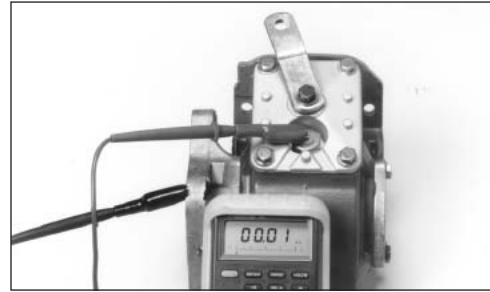

Fig. 19
1. Use a continuity checker, battery type, either meter or light. Attach one (1) probe to the screw on the Indicator Switch.
2. With the other probe, make contact with the shifter cover or housing (**Fig. 19**).